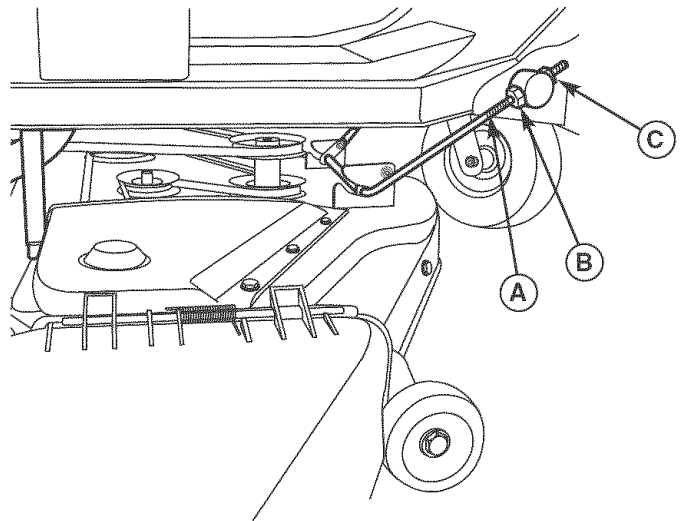

Figure 43. Front-to-Back Leveling
2. The front mower hitch rod (A, Figure 43) is used to adjust front-to-back leveling. To raise or lower the front of mower deck, loosen the two rear jam nuts (B) on both sides of the hitch rod (A). Adjust the front jam nuts (C) on both sides of the hitch rod (A) to adjust the deck level. When adjusted correctly, tighten the rear jam nuts (B) to lock hitch rod in place.